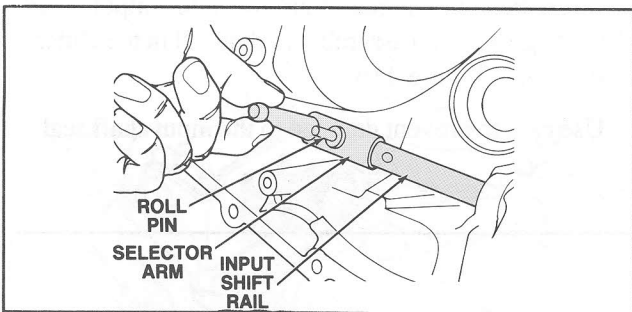

Figure 108 Selector Arm Installation
3. Position the shift selector arm in the clutch housing, slide the rail through the arm and seat it in the case. (Figure 108).